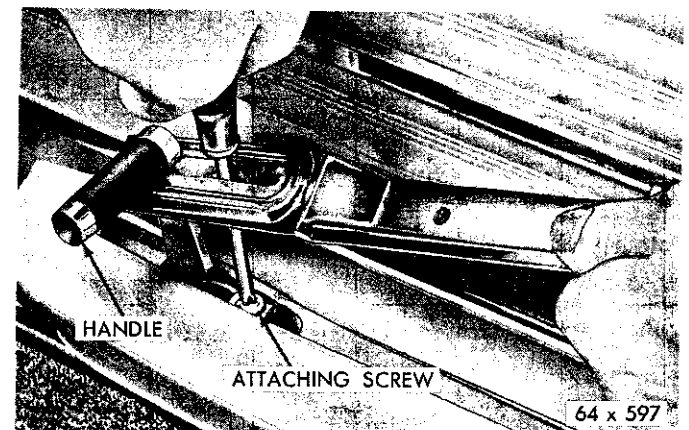

Fig. 45—Inside Door Handle Attachment (Imperial)
(2) On Imperials or Chrysler New Yorker models use a long screw driver to reach through the handle slot and loosen the handle clamping screw which is directly in the rear of the handle (Fig. 45).
(3) After loosening, the handle may be pulled off the shaft as the trim panel is removed.
(4) The rear door locking control knob is attached to its shaft on all models by means of a small screw through the center of the hub into the center of the end of the shaft. The knob is positioned on the shaft by spline teeth on the O.D. of the shaft and the I.D. of the hole in the knob.